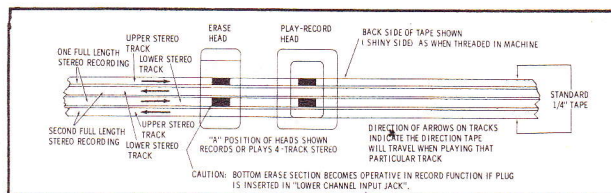

Fig. 7. "A" Position of Heads Shown for Stereo 4-Track Record or Playback
- b. Turn the head track selector knob to the "A" position. This action moves the heads in a position with respect to the tape as shown in Fig. 7.
- b. Place the Speed Change knob to the desired tape speed. Make sure that the head track selector knob is turned to the "A" position. The "A" position of the heads is shown in Fig. 7.